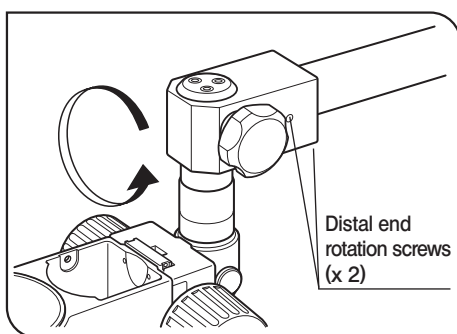

Fig. 9
5. To rotate the distal end of the horizontal arm with respect to the arm, loosen the two screws at the distal end using the provided Allen wrench. (Fig. 9)